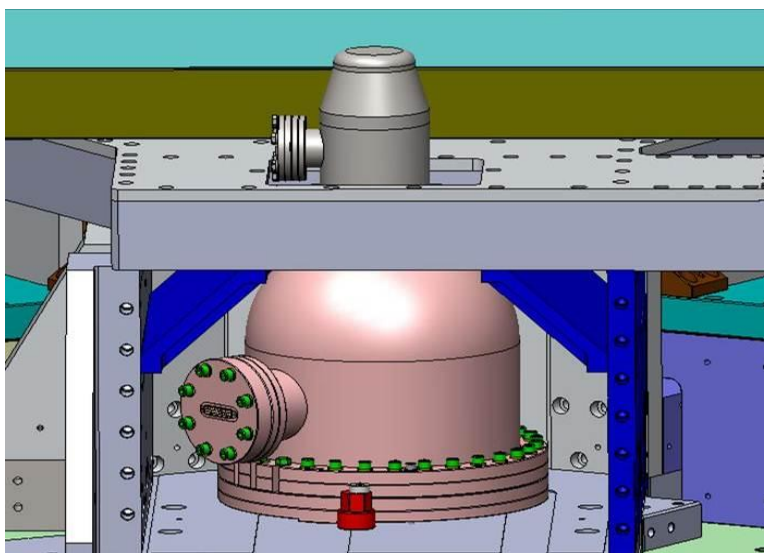

Figure 158: Placement of Vertical L4C's
- Put D047820 L4C Pod Assembly in position as shown on Figure 158.